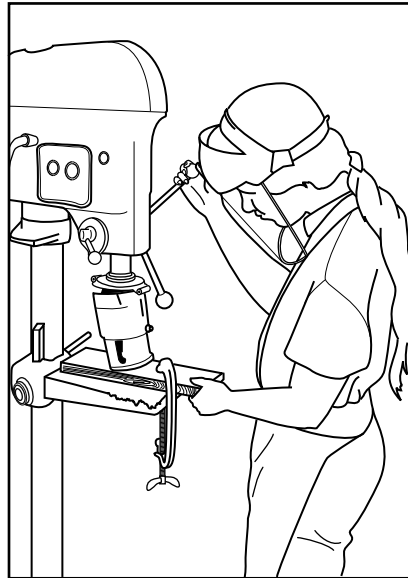

Fig. 1
- 1 Fig. 1 shows a student using a drilling machine safely.